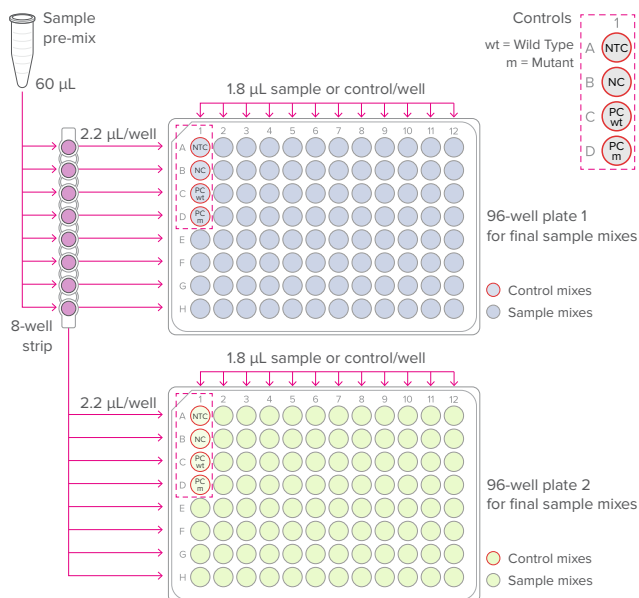

Figure 4. Final sample plates (per-well transfer volumes)
- 3 Prepare the final sample mixes as shown in Figure 4.